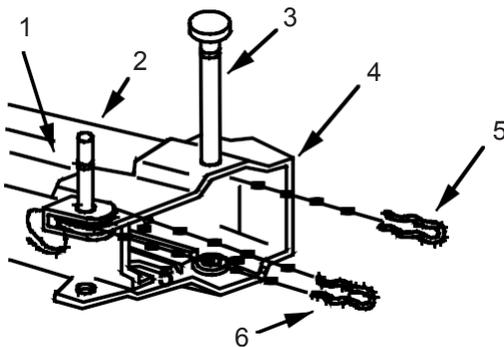

Figure 31b. Retaining Clip, Receiver.
2. Install retaining clip (Figure 31b, Item 1) on the left side flange of receiver (Figure 31b, Item 4) with square end to the front of the receiver.
3. Install headed, grooved pin (Figure 31b, Item 2) from left side of receiver (Figure 31b, Item 4).
4. Insert new retaining clip (Figure 31b, Item 6) between outside of flange of receiver (Figure 31b, Item 4) and inside of retaining clip (Figure 31b, Item 1) and install into first notch of headed, grooved pin (Figure 31b, Item 2).
5. Install headed grooved pin (Figure 31b, Item 3) from left-side of receiver (Figure 31b, Item 4).
6. Insert new retaining clip (Figure 31b, Item 5) between receiver side wall and rail extension on left side of the receiver.